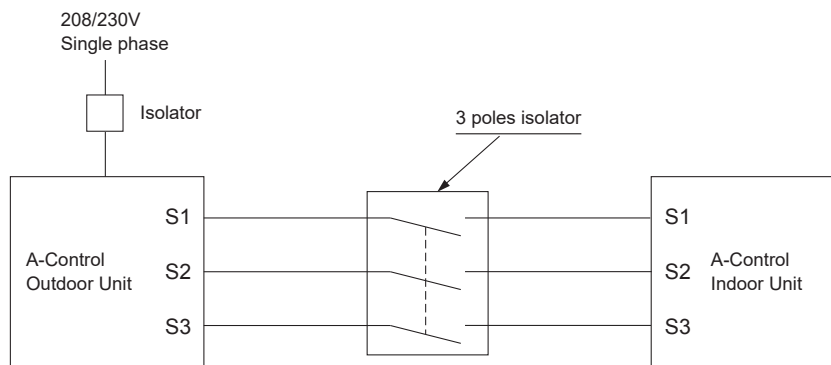

Fig. 1
Explain to customers to affix the included labels(Fig.1) both on the main breaker and the sub-panel.
- Explain to customers to affix the included labels(Fig.1) both on the main breaker and the sub-panel. If the local switch or the breaker is OFF, the refrigerant sensor cannot detect the refrigerant leakage since the electricity is not supplied.